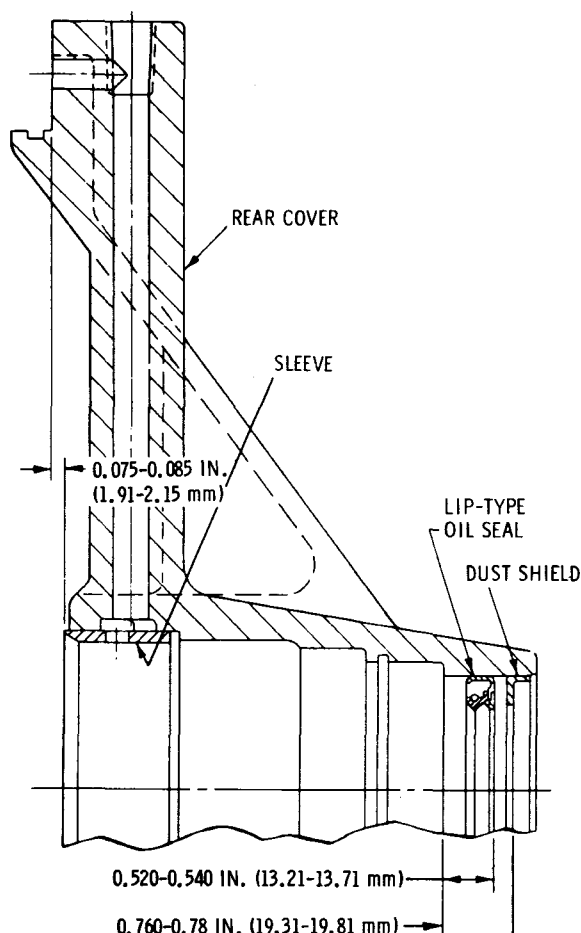

Fig. 6-20. Oil and dust shield installation (TT with converter-driven PTO)
(1) Install the PTO oil seal and dust shield as shown in figure 6-20. Install plug 32 (foldout 16,D). If the plug is 1/8-in. NPTF, tighten the plug to 10-12 lb ft (14-16 N·m). If the plug is 3/8-in. NPTF, tighten the plug to 18-22 lb ft (25-29 N·m).
(2) If sleeve 23 was removed, install a new sleeve, beveled OD first, into PTO cover 24. Press the sleeve to the dimension shown in figure 6-20. Install bearing 21 (fold-out 16,D) and snapping 20 into PTO cover 24.
(3) If pin 18 was removed from shaft 19, install a new pin, straight outer diameter first, into the shaft. Press the pin to a height of 0.810-0.830 inch (20.58-21.08 mm) from the front end surface of the shaft.
(4) Install snapping 16 onto shaft assembly 17 and install the shaft, threaded end first, through bearing 21 and into PTO cover assembly 22. Seat the shoulder of the shaft against the bearing.